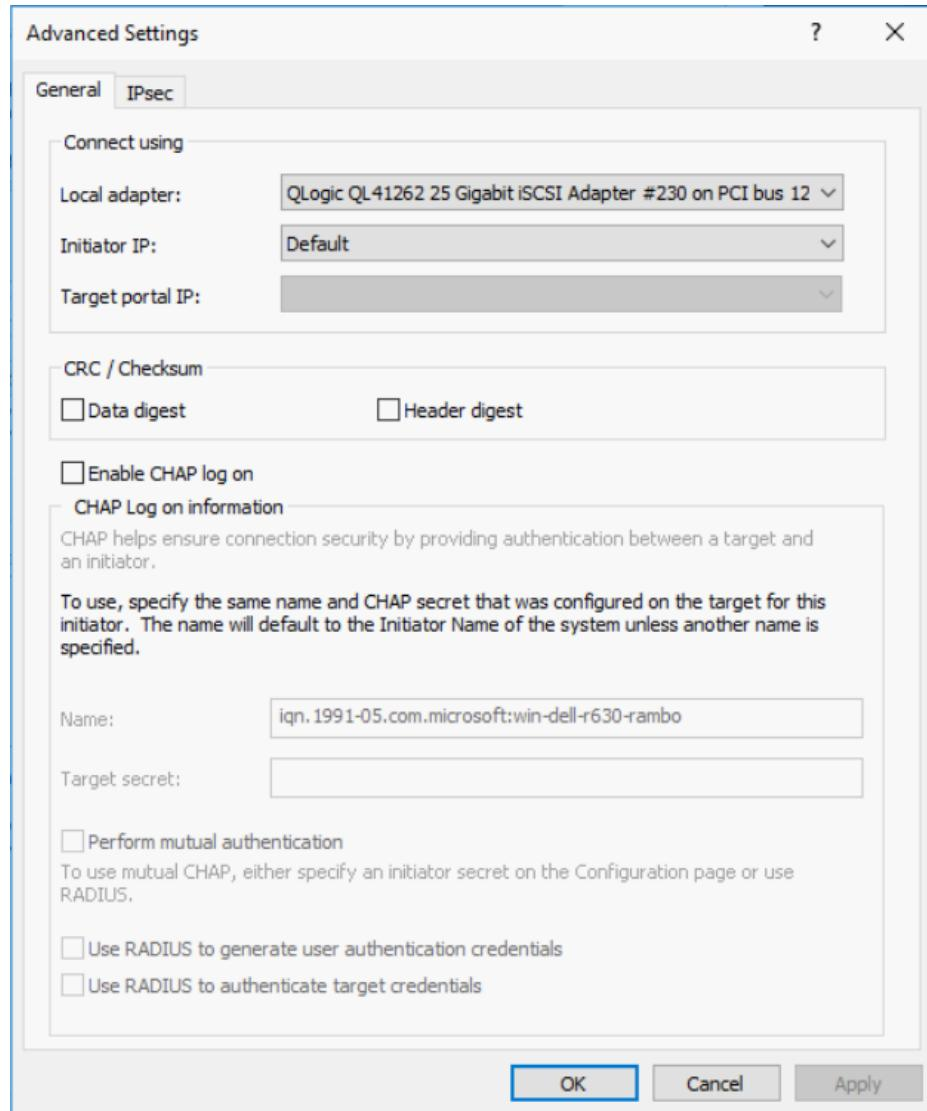

Figure 9-23. Selecting the Initiator IP Address
6. In the Advanced Settings dialog box (Figure 9-23), complete the following under **Connect using**: